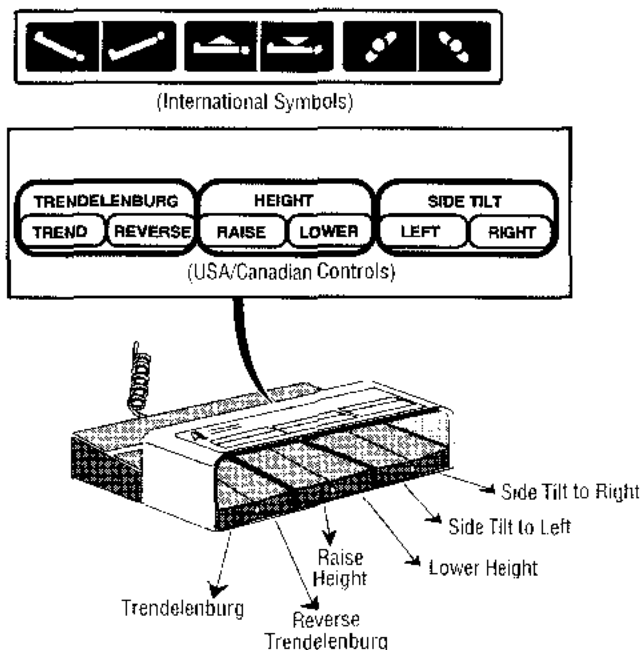

Figure 4-4. Foot Control
An optional foot control assembly is available for use in conjunction with the hand control. See Figure 4-4 for identification of foot control functions.
3. Adjust the tabletop position using the foot control positioning pedals, as follows (see Figure 4-4):